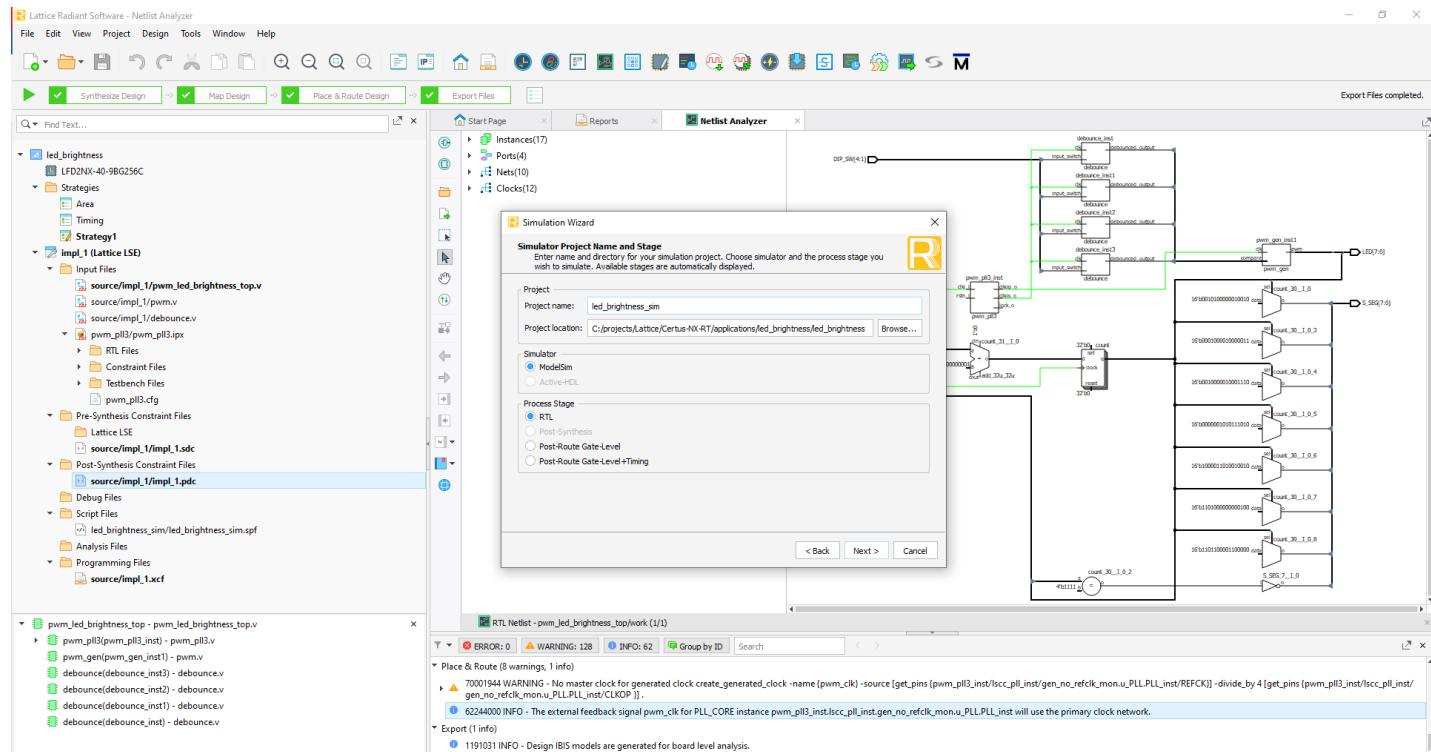

Figure 16: Naming the Simulation
17. Name the project **led_brightness_sim** and click **Next**, see **Figure 16**. If asked whether you want to create it, click **Yes**. Click Next to **Add and Reorder Source** and **Parse HDL files for simulation**. Click **Finish** to start the simulation.